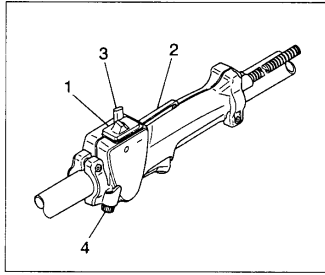

Fig. 2-5
Starting (Fig. 2-5)
1. Set ignition switch (1) to ON position. (Fig. 2-5)
Throttle limiter (4) is to adjust maximum opening of throttle. At the factory it is adjusted at its full opening. (Fig. 2-5)